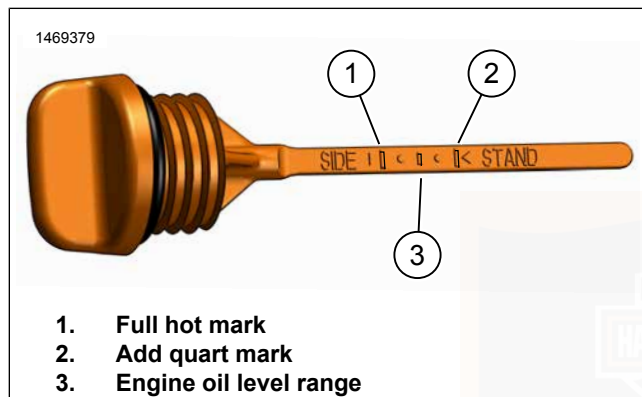

Figure 55. Engine Oil Dipstick (Vehicle Sidestand Gauge)
- e. See Figure 55. Check oil level range (3). Oil level must register between full hot (1) and add quart (2) marks on the dipstick.
16. See Figure 55. Add only enough oil to bring the level to the add quart mark.